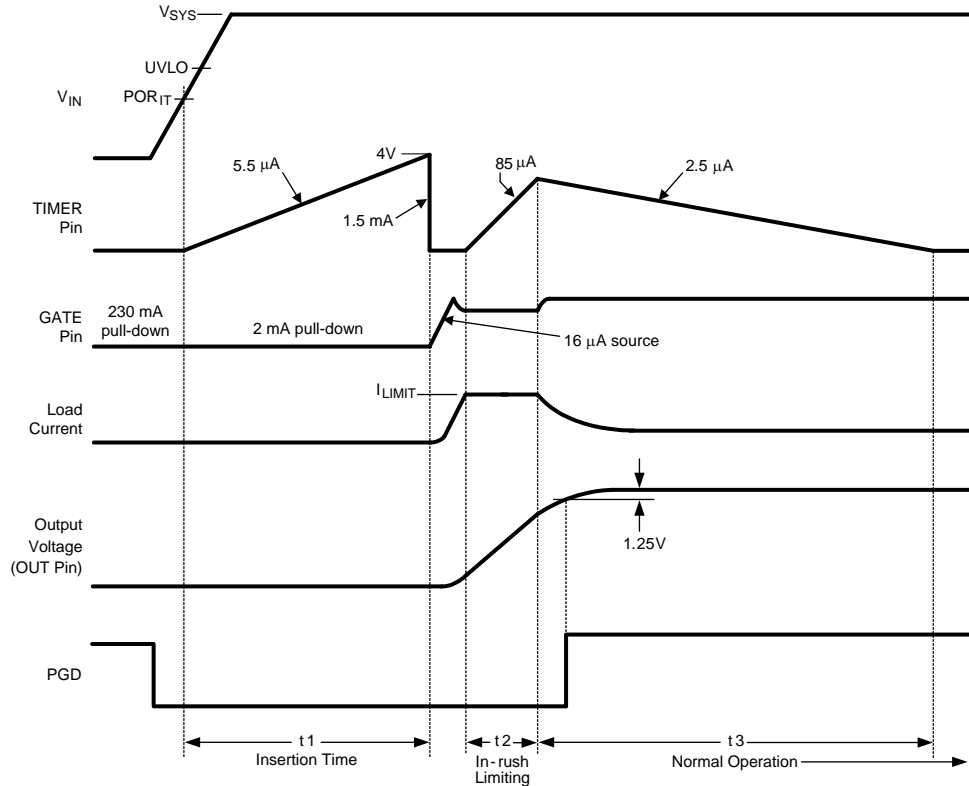

Figure 24. Power Up Sequence (Current Limit only)
The VIN operating range of the LM5069 is +9V to +80V, with a transient capability to +100V. Referring to the Block Diagram and Figure 22 and Figure 24, as the voltage at VIN initially increases, the external N-channel MOSFET (Q1) is held off by an internal 230 mA pull-down current at the GATE pin. The strong pull-down current at the GATE pin prevents an inadvertent turn-on as the MOSFET's gate-to-drain (Miller) capacitance is charged. Additionally, the TIMER pin is initially held at ground. When the VIN voltage reaches the  $POR_{IT}$  threshold (7.6V) the insertion time begins. During the insertion time, the capacitor at the TIMER pin ( $C_T$ ) is charged by a 5.5  $\mu A$  current source, and Q1 is held off by a 2 mA pull-down current at the GATE pin regardless of the VIN voltage. The insertion time delay allows ringing and transients at VIN to settle before Q1 can be enabled. The insertion time ends when the TIMER pin voltage reaches 4.0V.  $C_T$  is then quickly discharged by an internal 1.5 mA pull-down current. After the insertion time, the LM5069 control circuitry is enabled when VIN reaches the  $POR_{EN}$  threshold (8.4V). The GATE pin then switches on Q1 when  $V_{SYS}$  exceeds the UVLO threshold (UVLO pin  $>2.5V$ ). If  $V_{SYS}$  is above the UVLO threshold at the end of the insertion time, Q1 switches on at that time. The GATE pin charge pump sources 16  $\mu A$  to charge Q1's gate capacitance. The maximum gate-to-source voltage of Q1 is limited by an internal 12V zener diode.
As the voltage at the OUT pin increases, the LM5069 monitors the drain current and power dissipation of MOSFET Q1. In-rush current limiting and/or power limiting circuits actively control the current delivered to the load. During the in-rush limiting interval ( $t_2$  in Figure 24) an internal 85  $\mu\text{A}$  fault timer current source charges  $C_T$ . If Q1's power dissipation and the input current reduce below their respective limiting thresholds before the TIMER pin reaches 4.0V the 85  $\mu\text{A}$  current source is switched off, and  $C_T$  is discharged by the internal 2.5  $\mu\text{A}$  current sink ( $t_3$  in Figure 24). The in-rush limiting interval is complete when the voltage at the OUT pin increases to within 1.25V of the input voltage ( $V_{\text{SYS}}$ ), and the PGD pin switches high.
A charge pump provides internal bias voltage above the output voltage (OUT pin) to enhance the N-Channel MOSFET's gate. The gate-to-source voltage is limited by an internal 12V zener diode. During normal operating conditions ( $t_3$  in Figure 24) the gate of Q1 is held charged by an internal 16  $\mu\text{A}$  current source to approximately 12V above OUT. If the maximum  $V_{\text{GS}}$  rating of Q1 is less than 12V, a lower voltage external zener diode must be added between the GATE and OUT pins. The external zener diode must have a forward current rating of at least 250 mA.
During the insertion time ( $t_1$  in Figure 24) the GATE pin is held low by a 2 mA pull-down current. This maintains Q1 in the off-state until the end of  $t_1$ , regardless of the voltage at  $V_{\text{IN}}$  or  $UVLO$ .
Following the insertion time, during  $t_2$  in Figure 24, the gate voltage of Q1 is modulated to keep the current or power dissipation level from exceeding the programmed levels. While in the current or power limiting mode the TIMER pin capacitor is charging. If the current and power limiting cease before the TIMER pin reaches 4V the TIMER pin capacitor then discharges, and the circuit enters normal operation.
The series pass MOSFET (Q1) is enabled when the input supply voltage ( $V_{SYS}$ ) is within the operating range defined by the programmable under-voltage lockout (UVLO) and over-voltage lock-out (OVLO) levels. Typically the UVLO level at  $V_{SYS}$  is set with a resistor divider (R1-R3) as shown in Figure 22. When  $V_{SYS}$  is below the UVLO level, the internal 21  $\mu$ A current source at UVLO is enabled, the current source at OVLO is off, and Q1 is held off by the 2 mA pull-down current at the GATE pin. As  $V_{SYS}$  is increased, raising the voltage at UVLO above 2.5V, the 21  $\mu$ A current source at UVLO is switched off, increasing the voltage at UVLO, providing hysteresis for this threshold. With the UVLO pin above 2.5V, Q1 is switched on by the 16  $\mu$ A current source at the GATE pin if the insertion time delay has expired (Figure 24). See the Applications Section for a procedure to calculate the values of the threshold setting resistors (R1-R3). The minimum possible UVLO level at  $V_{SYS}$  can be set by connecting the UVLO pin to VIN. In this case Q1 is enabled when the VIN voltage reaches the  $POR_{EN}$  threshold.
**A) Insertion Delay** - Upon applying the system voltage ( $V_{SYS}$ ) to the circuit, the external MOSFET (Q1) is held off during the insertion time ( $t_1$  in Figure 24) to allow ringing and transients at  $V_{SYS}$  to settle. Since each backplane's response to a circuit card plug-in is unique, the worst case settling time must be determined for each application. The insertion time starts when  $V_{IN}$  reaches the  $POR_{IT}$  threshold, at which time the internal  $5.5 \mu\text{A}$  current source charges  $C_T$  from 0V to 4.0V. The required capacitor value is calculated from: